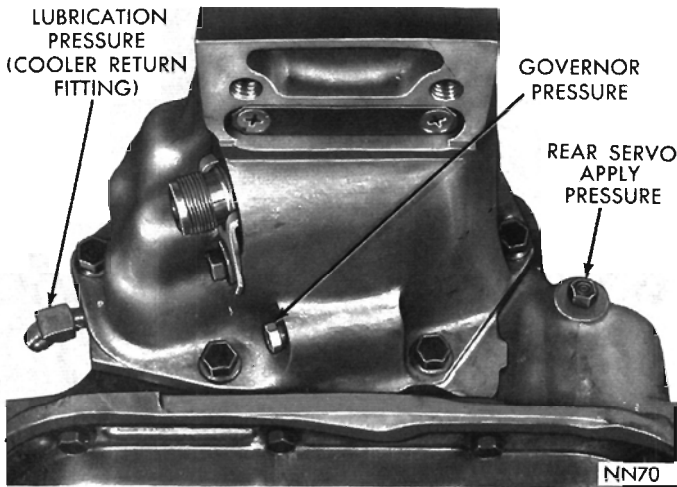

Fig. 21—Pressure Test Locations (Rear End of Case)
(1) Install a "tee" fitting between cooler return line fitting and fitting hole in transmission case at rear left side of the transmission (Fig. 21). Connect a 0-100 psi pressure gauge, Tool C-3292 to the "tee" fitting.
(2) At 1,000 engine rpm, with throttle closed and transmission in direct, lubrication pressure should be 5-15 psi. Lubrication pressure will be approximately doubled as the throttle is opened to maximum line pressure.
(1) Connect a 0-300 psi pressure gauge, Tool C-3293 to apply pressure take-off point at rear servo (Fig. 21).
(2) With transmission control in R (reverse) position and engine speed set at 1600 rpm, reverse servo apply pressure should be 230 to 300 psi.
(1) Connect a 0-100 psi pressure gauge, Tool C-3292 to governor pressure take-off point, located at lower left side of extension near the mounting flange (Fig. 21).
(2) Governor pressures should fall within the limits given in the "Governor Pressure Chart."